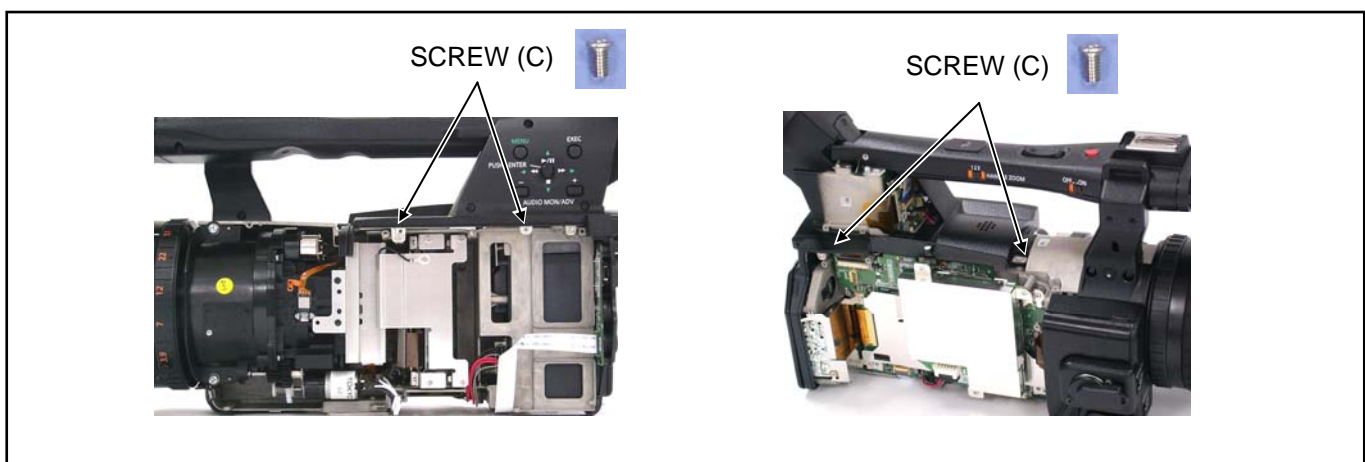

Figure 14-3
6. Unscrew the 4 screws (C) and remove the Top Set Ass'y as shown in figure 14-3.